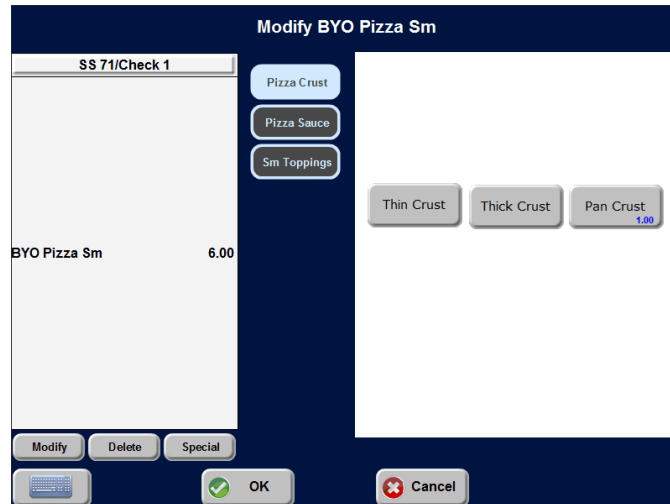

Figure 47 Crust Modifier Screen for Advanced Pizza
4. Touch a **size** and then the **pizza item**. The item appears in the on-screen guest check with a \$12.00 price. The Modifier screen for the choice of crust appears with a custom modifier panel (Figure 47).